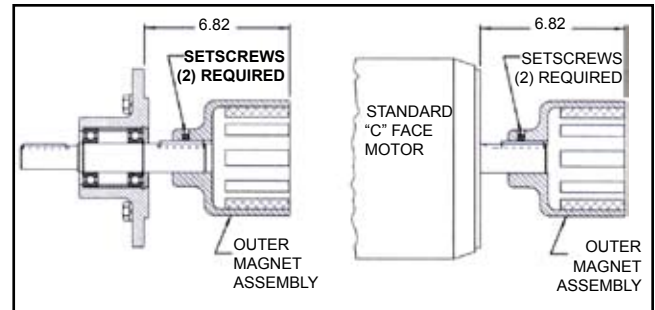
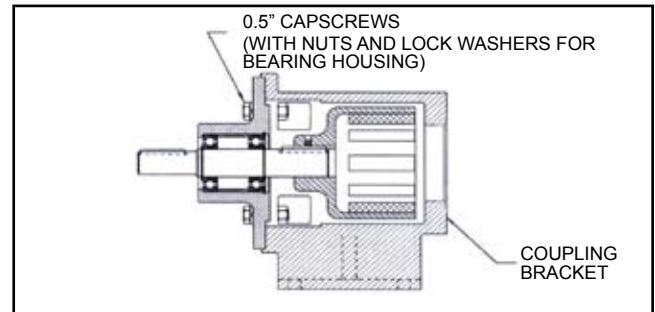

FIGURE 32
FIGURE 33
1. Inspect the magnets for any steel objects, which may be attached. Remove any foreign material. Locate the outer magnet assembly per dimension (**See Figure 32**). Apply Loctite and tighten the setscrews onto motor or bearing carrier key and shaft.
2. If the bracket is not fastened to a base, clamp it down **See Figure 33**. Mount the motor or bearing carrier to the bracket and secure with (4) 0.5" capscrows. Reach in and rotate the magnets by hand to make sure there is no interference. If rubbing occurs check the dimension in **Figure 32** or contact the factory.